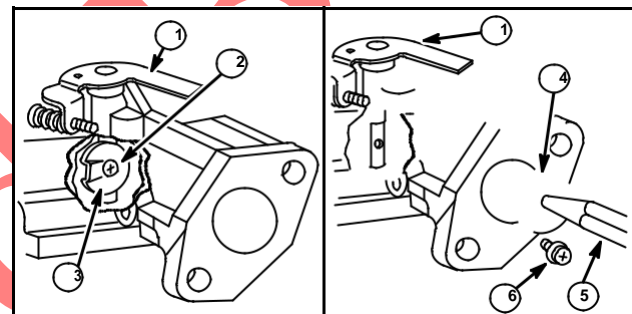
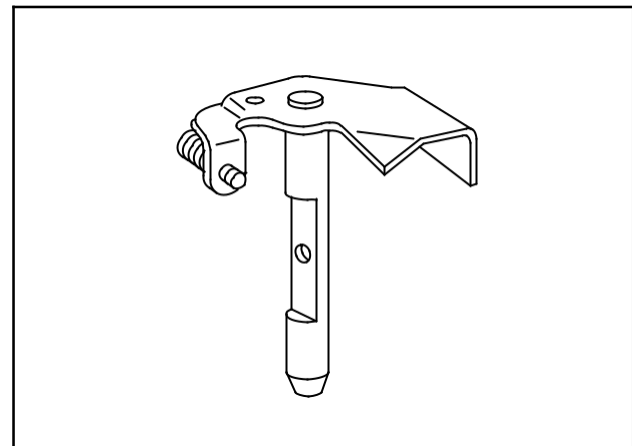

Fig. 63
Fig. 64
1. Remove throttle plate screw (2) and throttle plate (3), Fig. 63. Illustration of throttle shaft and lever, Fig. 64.
2. After removal of throttle plate, throttle shaft (1) and dust seal may be lifted out, Fig. 63.
3. Disassemble valve (4) by removing Philips head screw (6), then use pencil (5) or similar tool to lift out valve.